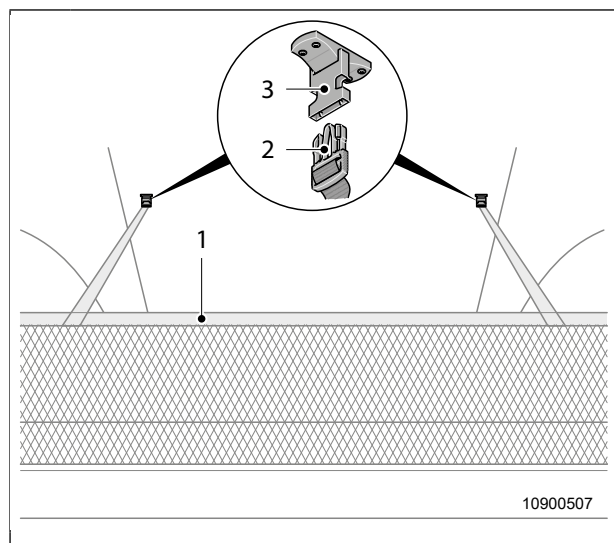

Fig. 39 Anti-fall guard
1. Pull out the anti-fall guard (Fig. 39, item 1) from under the mattress.
2. Insert both straps of the anti-fall guard into the corresponding coupling (Fig. 39, item 3) with the plug lock (Fig. 39, item 2).